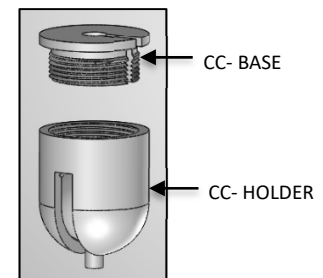

FIG. 12 - CEILING COUPLER ASSEMBLY
2. Dis-assemble the CEILING COUPLER into two components CC-BASE, CC-HOLDER as shown in FIG. 12.